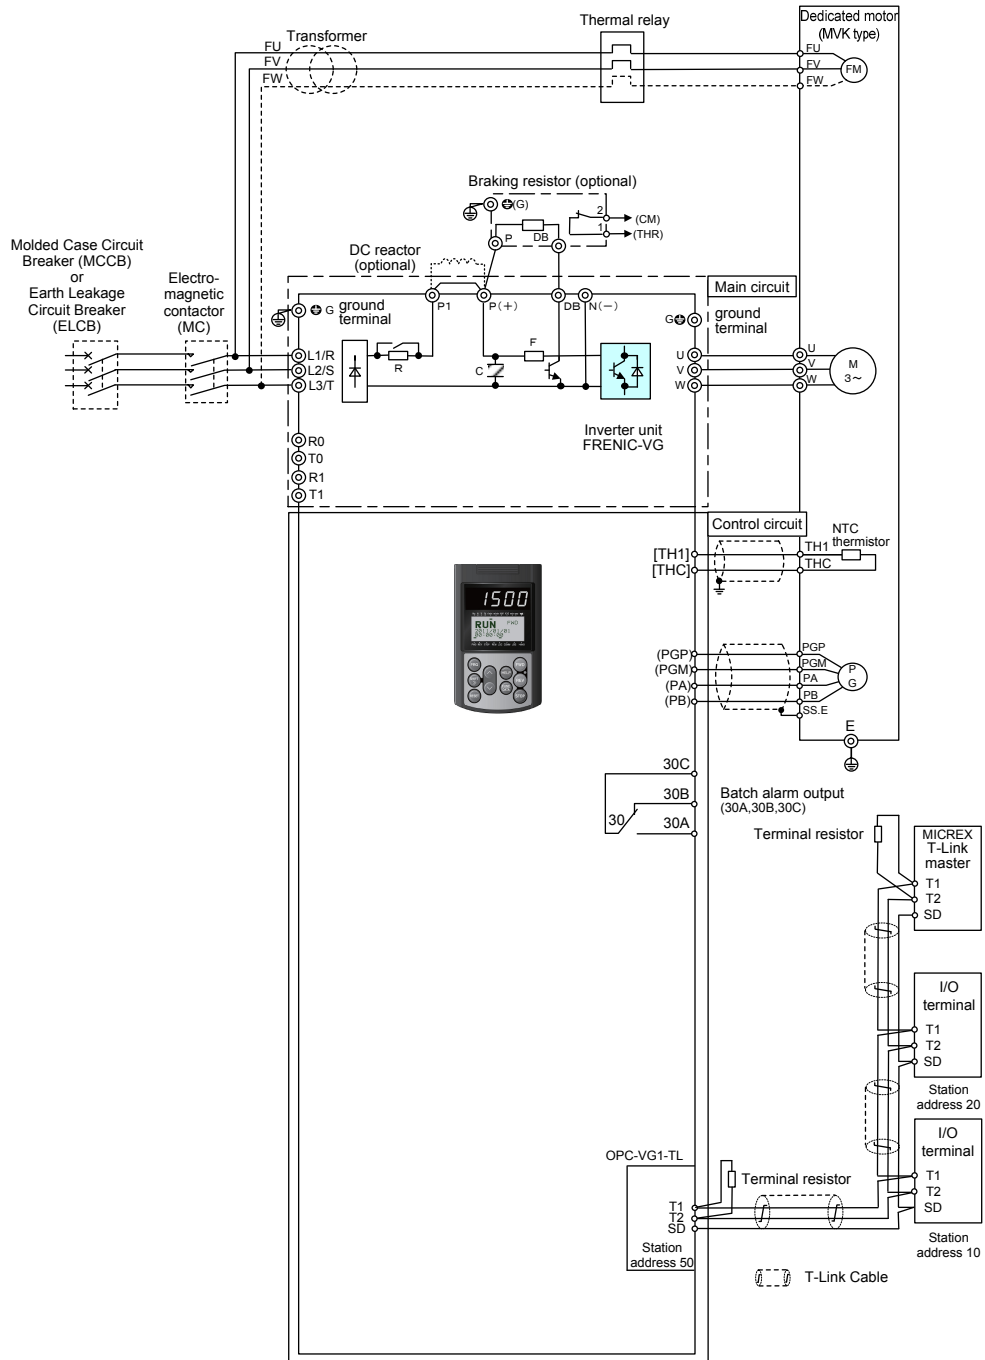

Figure 6.4.3
(2) Connect the terminal resistor 100 Ω supplied with the T-Link master to the both ends of the T-Link.
(3) Be sure to connect the T-Link cable without going over the same line twice as shown in the basic connection diagram (Figure 6.4.3).